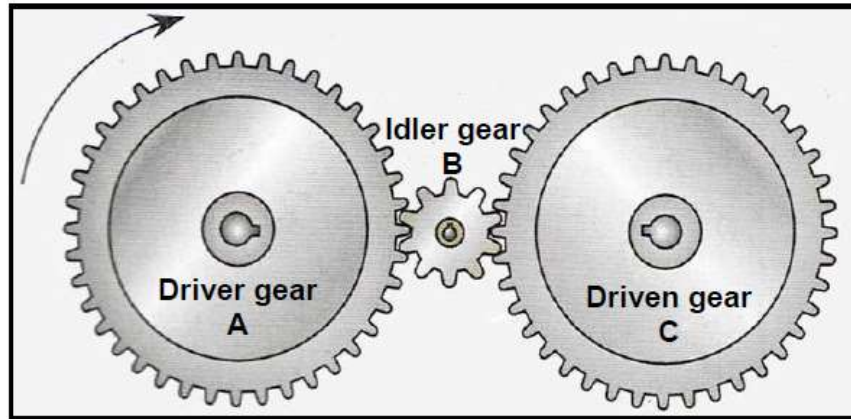

FIGURE 9.9
- 9.9 FIGURE 9.9 illustrates a gear system in a gearbox. Gear A, with 102 teeth, rotates clockwise at 120 r/min.